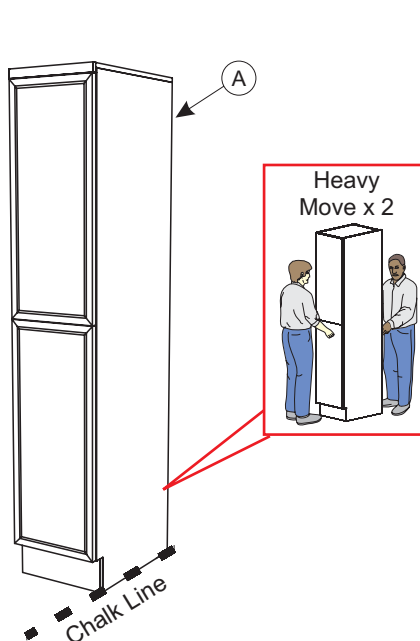

Figure 2a
Move Clean Tub/Tray Storage Tower (A) into position flush against the wall and in line with Chalk mark on floor (see Figure 2a). Plug the interior lamps into a floor outlet **controlled by customer supplied light switch** through the access hole in bottom of cabinet. *The front toe is removable for future access if necessary.*